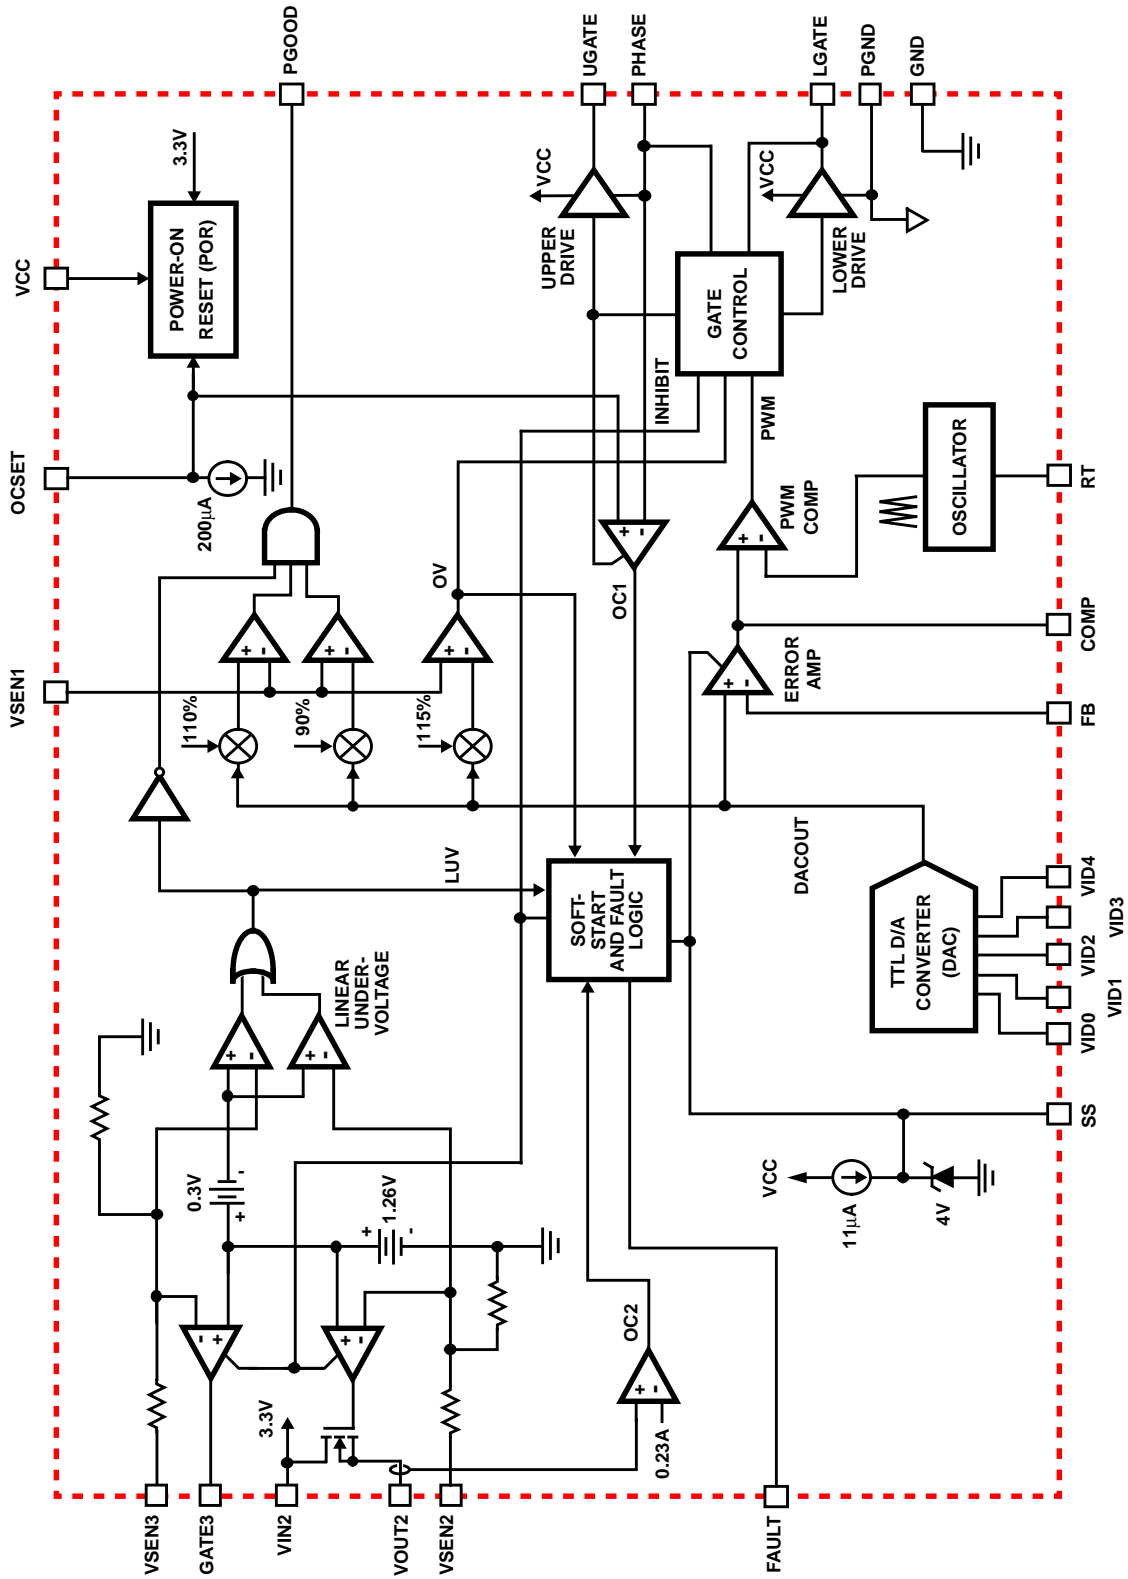

FIGURE 1.
## Electrical Specifications Recommended Operating Conditions, Unless Otherwise Noted. Refer to Figures 1, 2 and 3
**Electrical Specifications** Recommended Operating Conditions, Unless Otherwise Noted. Refer to Figures 1, 2 and 3 (Continued)